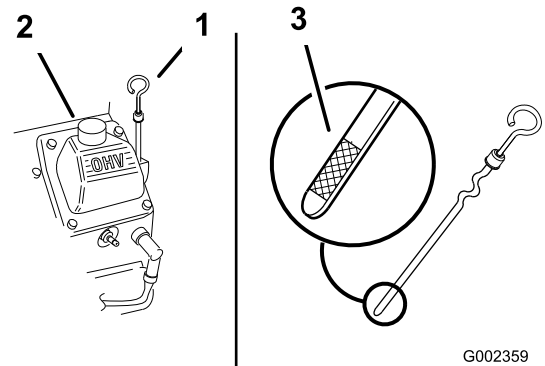

Figure 44
2. Clean around the oil dipstick (Figure 44) so dirt cannot fall into the filler hole and damage the engine.
3. Remove the dipstick, wipe it clean, and install until it is fully seated (Figure 44).
4. Remove the dipstick and check the oil level. The oil level should be between the “F” full and “L” low marks on the dipstick (Figure 44).
5. If the oil level is below the “L” low mark, remove the filler tube cap (Figure 44) and add the specified oil until the level reaches the “F” full mark on the dipstick.